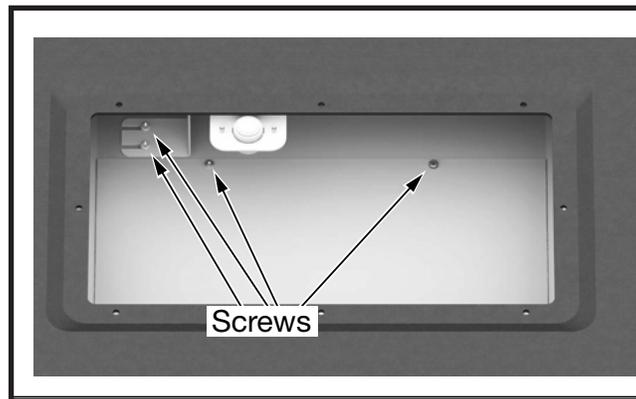

Figure 4: Thermo switch bracket and access panel screws.
3. Loosen the two screws securing the thermo switch bracket and slide the bracket back and set aside to clear the opening for removing the blower (Figure 4).